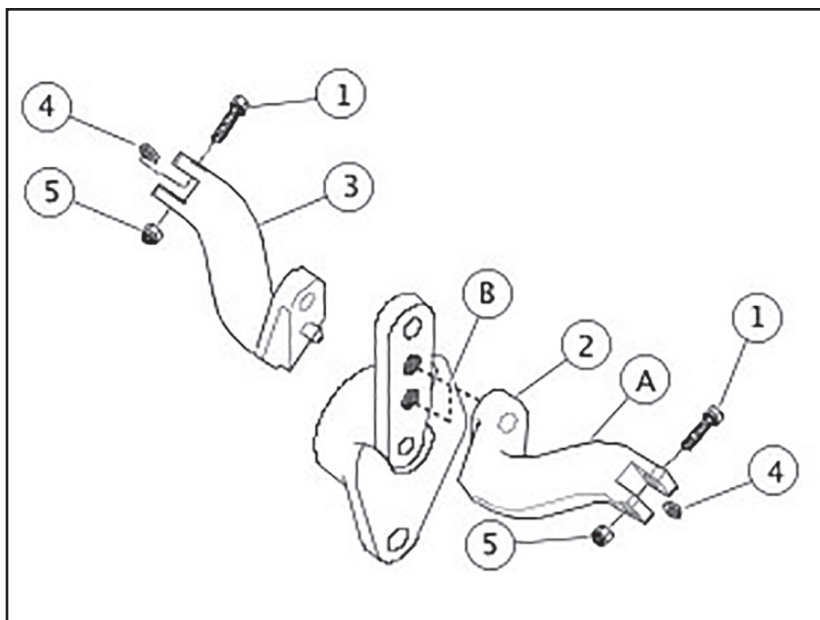

Figure 1. Service Parts:
1. On each side of the motorcycle, remove the socket head capscrew and lockwasher that attaches each footpeg support (A) and footpeg to motorcycle. Remove both footpeg supports along with their footpegs.
2. See Figure 1. Place the right (2) and left (3) footpeg support in position (the supports can be installed in one of two different height positions to suit passenger preference) and securely fasten to motorcycle with lockwasher and capscrew removed in Step 1.
3. Install footpegs (sold separately) on each footpeg support using capscrews (1), spring washers (4), and locknuts (5). The spring washer goes between the jaws of the footpeg supports along with the mounting end of the footpeg. Tighten hardware securely.